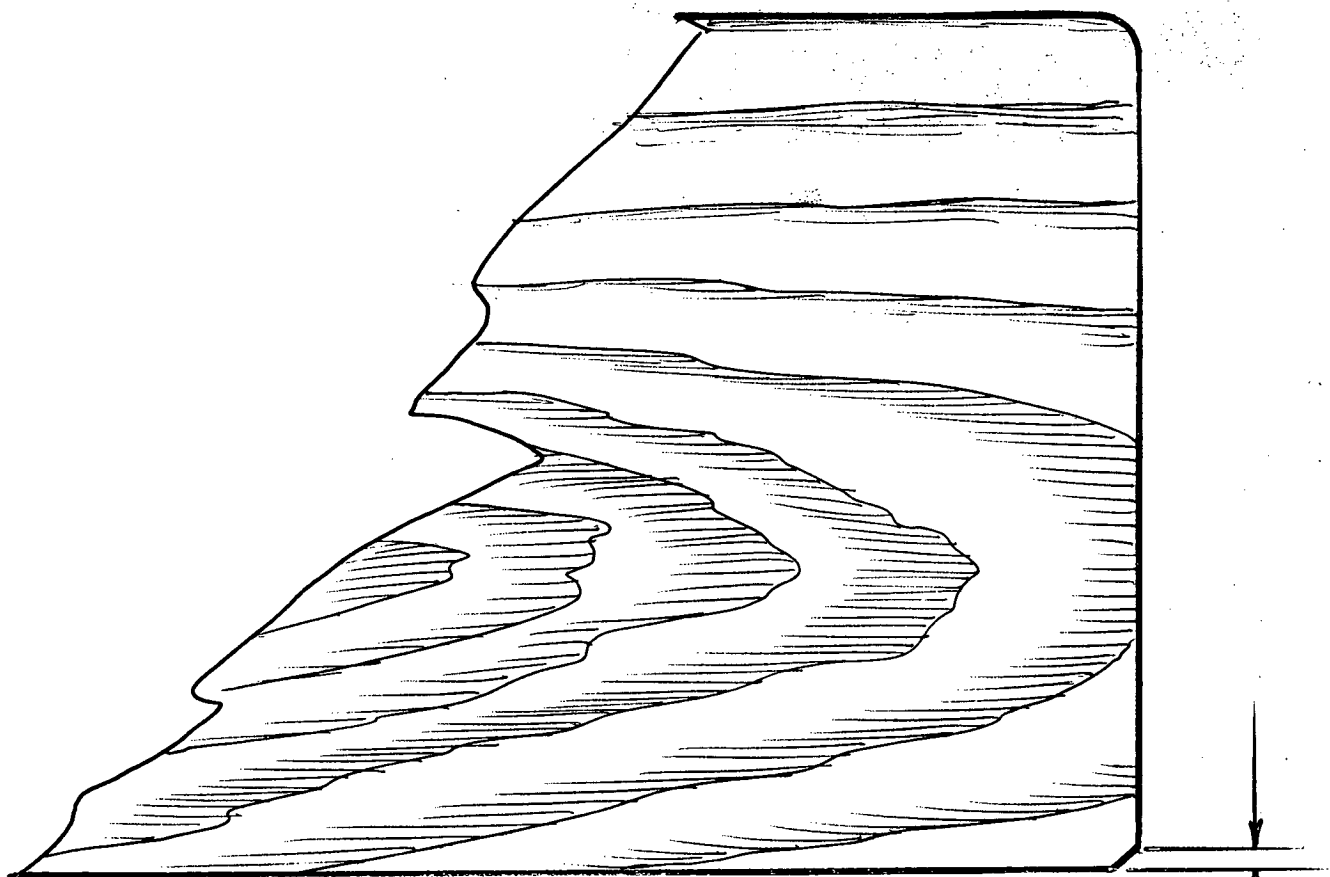

Fig. 1.
1. Using the illustration Fig. 1 as a guide, file the lower corners of the door to the shape indicated.